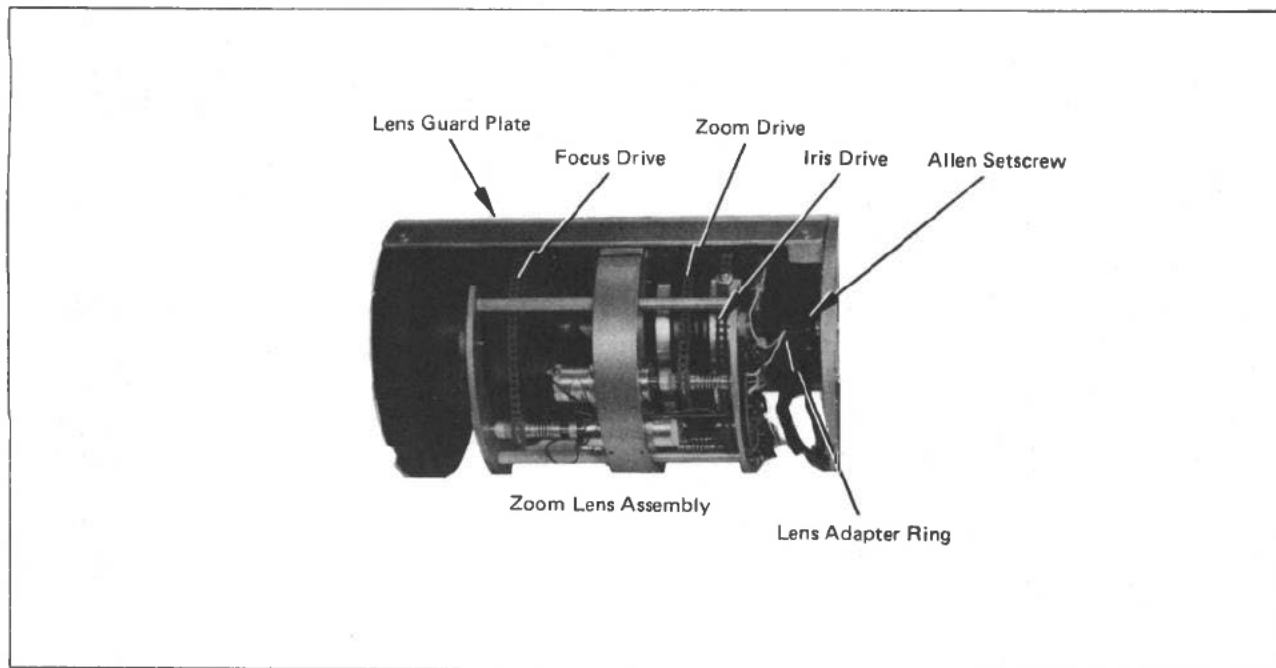

Figure 1-10. Zoom Lens Assembly
- d. If lens being installed has a fixed focal length, set focus ring on it at infinity, aim camera at an infinite distance scene with line details in it, and screw lens and lens adapter ring as a unit into the lens well to attain best resolution of details in picture at TV monitor. Then tighten setscrew for lens adapter ring to lock lens in position. If lens being installed is zoom type instead of fixed focal length, set lens for maximum focal length, aim camera at a far scene with line details, and adjust ring on lens for best resolution of line details in picture. Put ND filters in front of lens to cause lens iris to open fully. Zoom out to wide angle and loosen Allen setscrew on lens adapter ring (Figure 1-10). Screw zoom lens assembly in or out to achieve best focus. Lock down Allen screw on lens adapter ring, then zoom into narrow angle and set focus ring to best focus. Zoom out to wide angle and into narrow angle while watching scene target to recheck focus. Focus must remain sharp at any and all settings of focus range and zoom range. If not, retrack zoom lens by repeating this procedure step starting with placing ND filters in front of zoom lens. When tracking is completed, attach lens guard plate (Figure 1-10) to zoom lens assembly with machine screws.